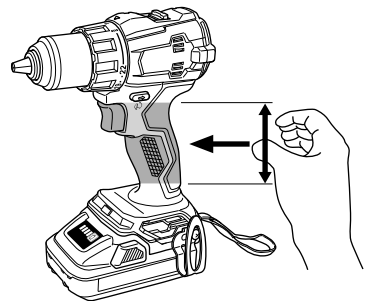

Fig. 1
- 2. **During operation, make sure to firmly hold the tool's handle. Failure to do so may result in injury. (Fig. 1)**